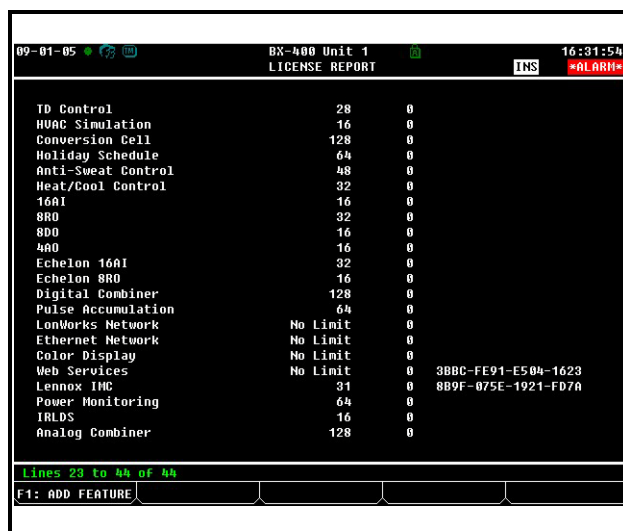

Figure 10-35 - License Report Screen (BX-400 version shown)
4. Reboot the controller and open the License Report screen again to see the license key appear next to the activated feature (Figure 10-35):